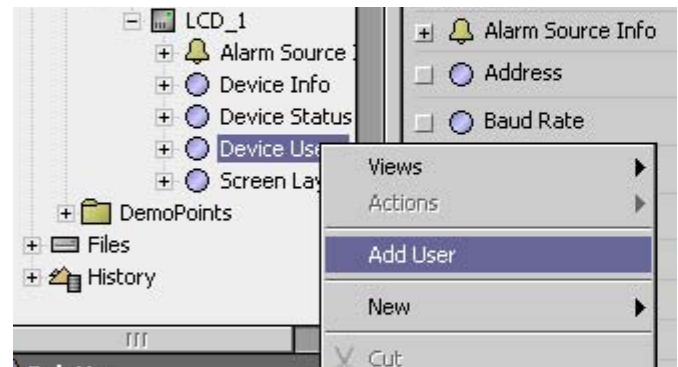

Fig. 12. Add User menu.
2. Highlight the Device Users container in the NavTree. Right-click and select Add User (see Fig. 12). Alternately, a new user can be added by dragging a Display User from the palette onto the Device Users container.